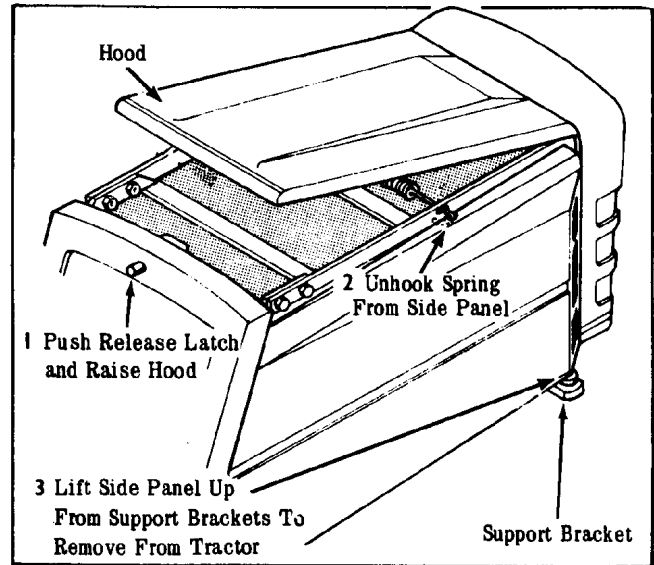

Figure 3
2. Raise up the hood and remove the side panels (See Fig. 3).